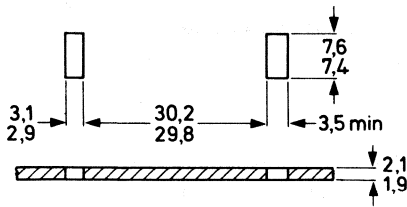

Fig. 2a Heatsink requirements.
2. Push the short end of the clip into the narrow slot in the heatsink with the clip at an angle of 10° to 20° to the vertical (see Figs 2a and 2b).